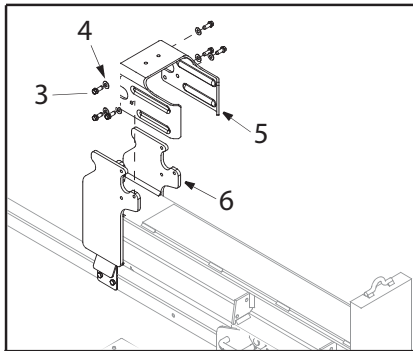
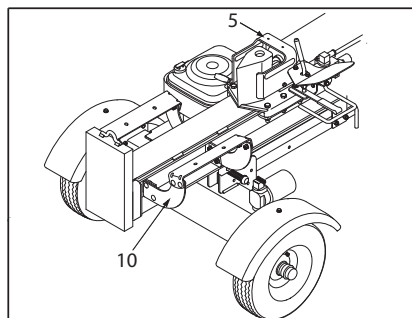

Fig. 7
Fig. 9b
- Disconnect the stripper (5) – by removing the six bolts (3) and the washers (4) from the mount block (6) welded to the column. Fig. 7
- Re-attach the stripper (5) above the wedge module and screw to the welded-on mount block with the previously removed small parts (see Fig. 7). Fig. 9b
- Re-attach support (10) to the control valve side of the splitting column, aligning the ends of the support with the column flanges. See Fig. 9b.